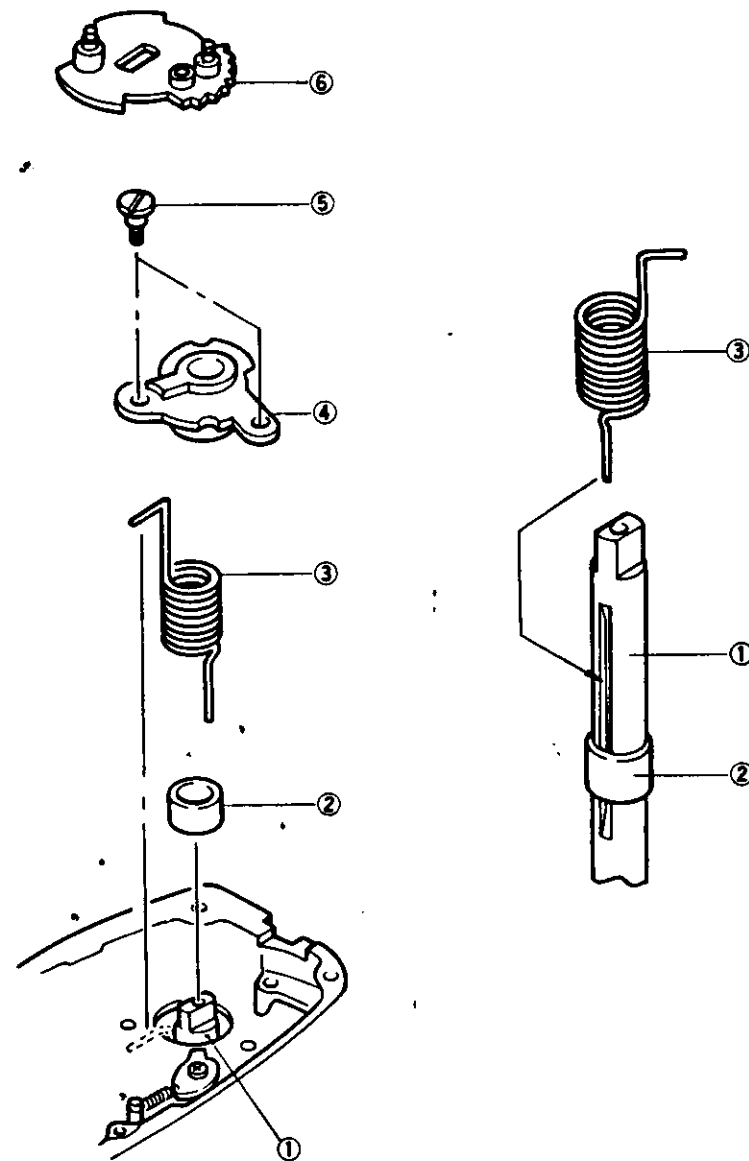

Fig. 17
2. Winding shaft (see Fig. 17)
- 2) Insert the REWINDING SPRING (No. 3) in the WINDING SHAFT (No. 1) as shown in Fig. 17.
- 3) Turn the WINDING SHAFT (No. 1) and set the position of the REWINDING SPRING (No. 3) as shown in Fig. 17.